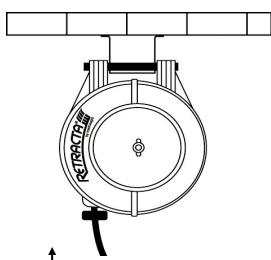

Fig.2 Overhead mounting (max height 4.5m)
2) Prevent the reel from swiveling in the overhead position (figure 2) by install locking bracket RB9 (supplied).